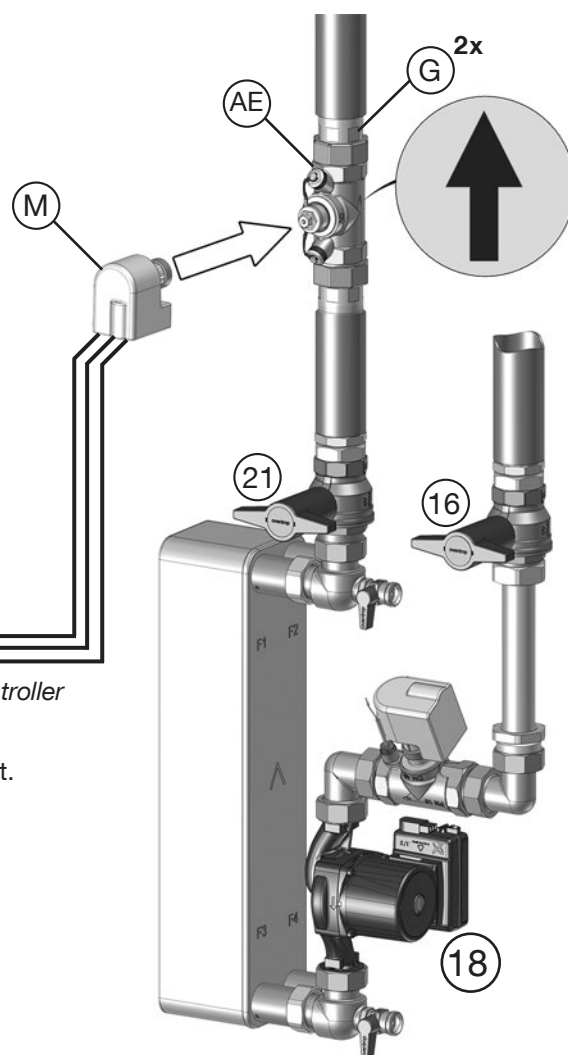

Fig. 4.12: Installation of the isolation device and the actuator
- Close the ball valve (16 and 21) of the fresh water station (see Fig. 4.12 on page 22).